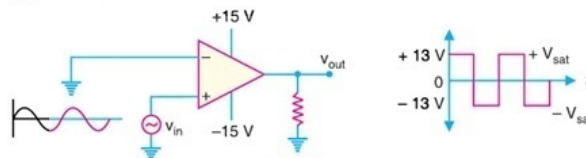

Fig. 25.94
1. As a square wave generator. A comparator can be used to produce a square wave output from a sine wave input. Fig. 25.94 shows the circuit of a comparator to produce square wave output. Note that inverting terminal ($-$) is grounded and signal (v_{in}) is applied to the noninverting terminal ($+$). Since the gain of a comparator is equal to A_{OL} , virtually any difference voltage at the inputs will cause the output to go to one of the voltage extremes ($+I'_{sat}$ or $-I'_{sat}$) and stay there until the voltage difference is removed. The polarity of the input difference voltage will determine to which extreme ($+I'_{sat}$ or $-I'_{sat}$) the output of the comparator goes.